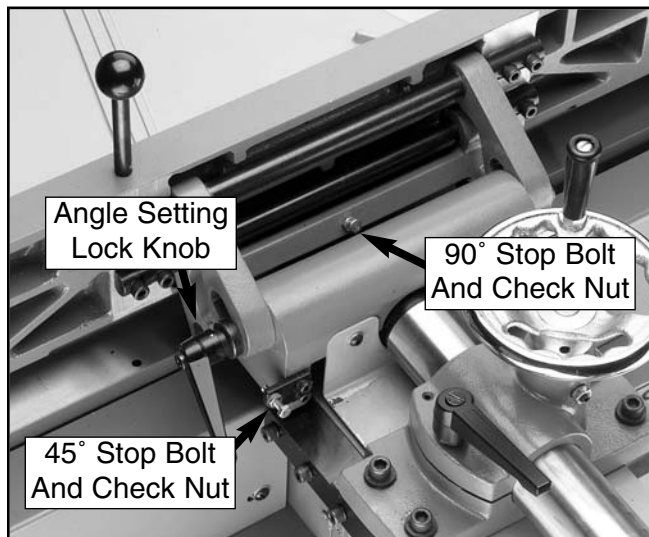

Figure 42. 90° and 45° fence stops.
2. While holding the fence adjusting handle, loosen the check nut on the 90° stop screw (**Figure 42**). Turn the stop screw against the bracket until the fence contacts the edge of the square evenly.
The process for setting the 45° fence stop is the same as for the 90° stop, with the exception of using a bevel gauge set to 45° (**Figure 43**) and adjusting the fence mechanism against the 45° stop (**Figure 42**).